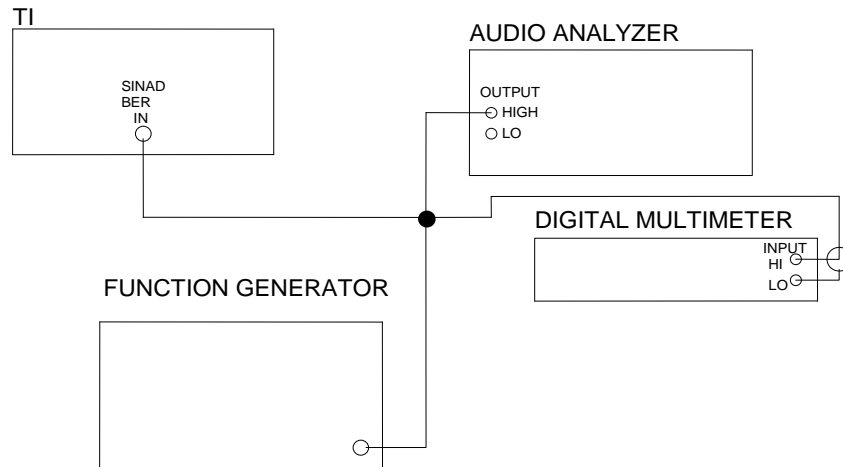

Figure 4.
4.9.1 Connect equipment as shown in Figure 4.